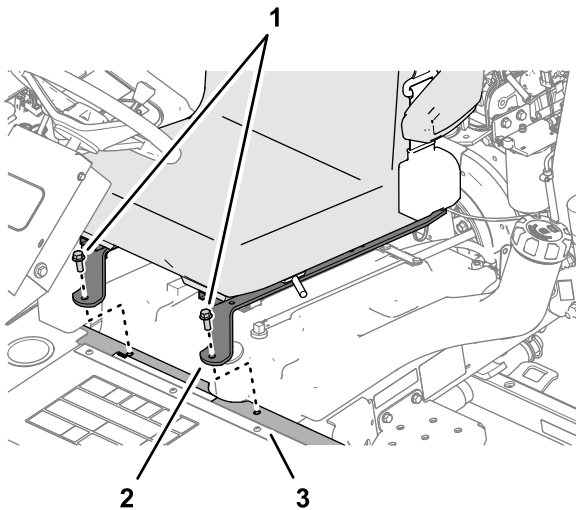

Figure 3
2. Remove the 2 flange-head capscrews that secure the seat straps to the support channel (Figure 3).